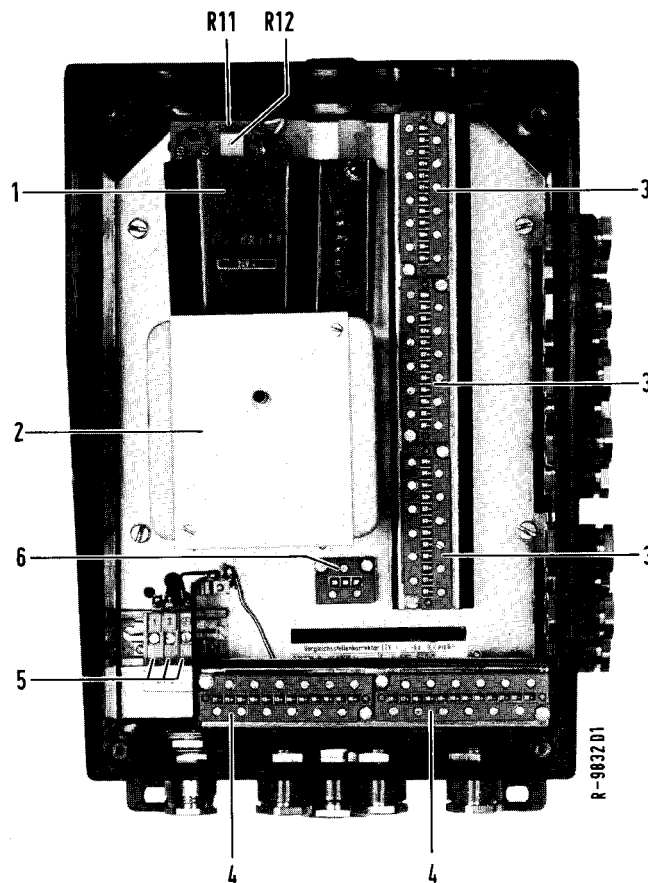

Fig. 3 TTY 65-Ex, TTY 125-Ex, case size 1 (opened)
|                        | 6 measuring points (see Fig. 3)  |
|                        | 12 measuring points (see Fig. 3) |
The following assemblies: power supply unit (1), block (2), input terminals (3), output terminals (4), power terminals (5), Pt 100 terminals (6) and shield terminals (7) are screwed to a metal plate fastened to the base of the plastic case (see Figs. 3 and 4).
(See Figs. 3 and 4 for position of R11 and R12)